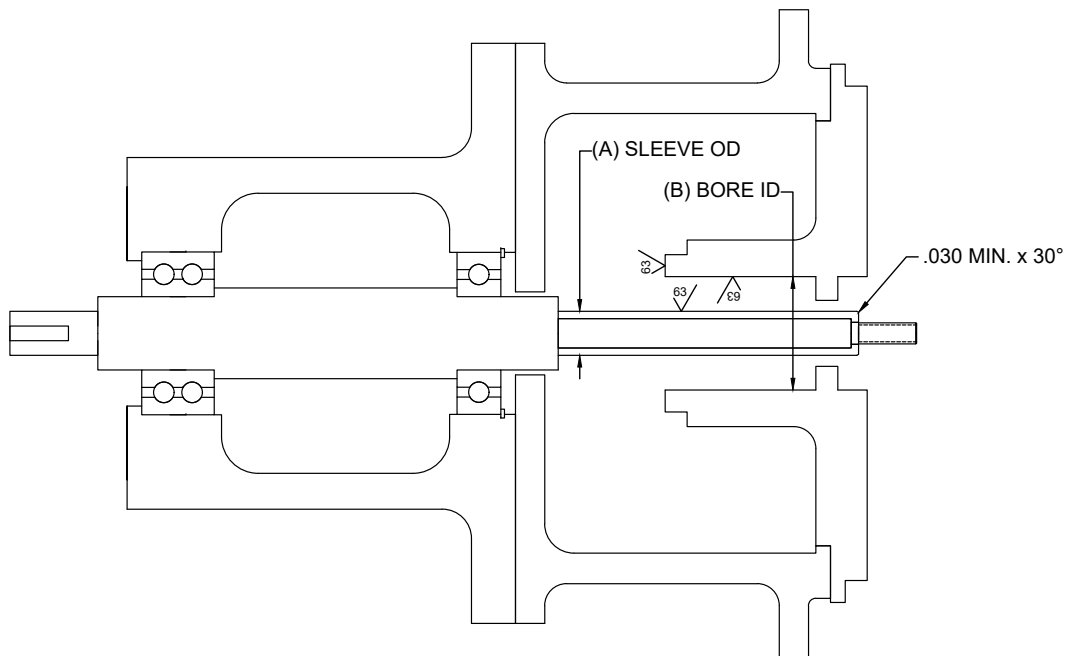

Figure 1: Surface finish and chamfer locations. Fully assembled pump without seal.
5. Sealing surfaces and the shaft or shaft sleeve must have at least a 63 Ra-µin surface finish as seen in Figure 1.
6. For ease of installation, the leading edge of the shaft or sleeve should be chamfered as shown in Figure 1 and all parts should be deburred.